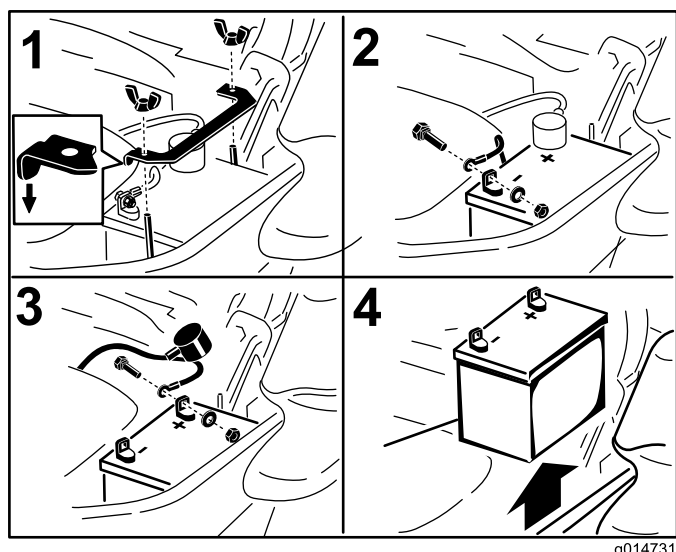

Figure 46
3. First disconnect the negative battery cable (black) from the negative (-)(black) battery terminal (Figure 46).
4. Slide the red terminal boot off the positive (red) battery terminal and remove the positive (+)(red) battery cable (Figure 46).
5. Remove the wing nut securing the battery clamp (Figure 46).
6. Remove the clamp (Figure 46).
1. Position battery in the tray with the terminal posts opposite from the hydraulic tank (Figure 46).
4. Secure the cables with 2 bolts, 2 washers, and 2 locknuts (Figure 46).
6. Install the clamp and secure it with the wing nut (Figure 46).